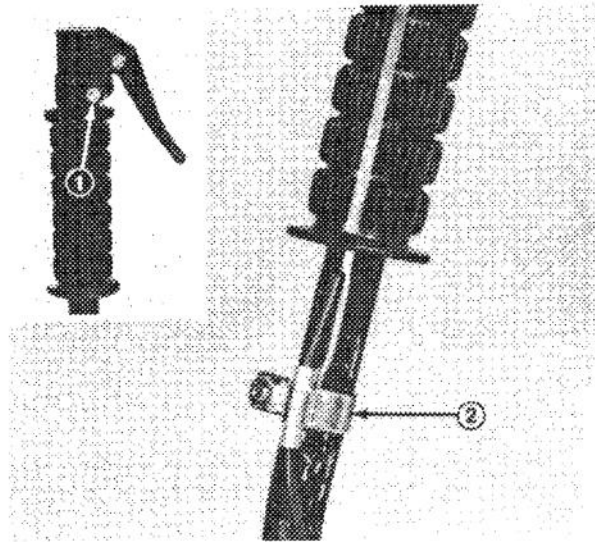

Figure 12
5. Position the trigger on opposite side of handle from engine and tighten screw and nut to secure trigger assembly to handle (Fig. 12).
6. Remove all slack from cable and tighten band (Fig. 12). Check trigger operation to make sure cable is attached and functioning correctly.